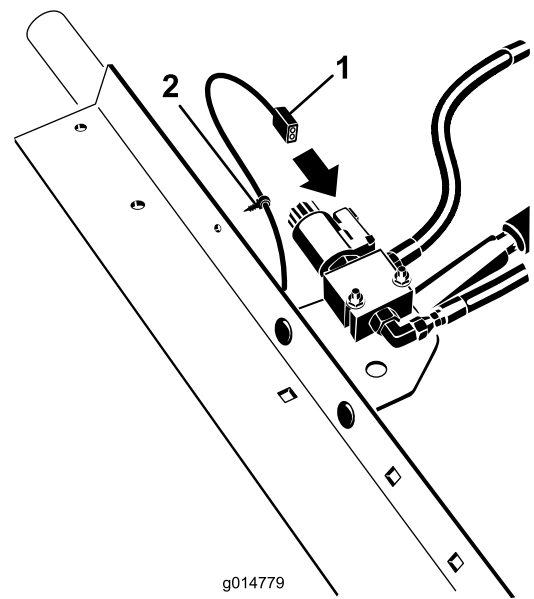

Figure 6
8. Plug the remaining harness connector into the differential lock valve located under the center of the seat plate (Figure 6).